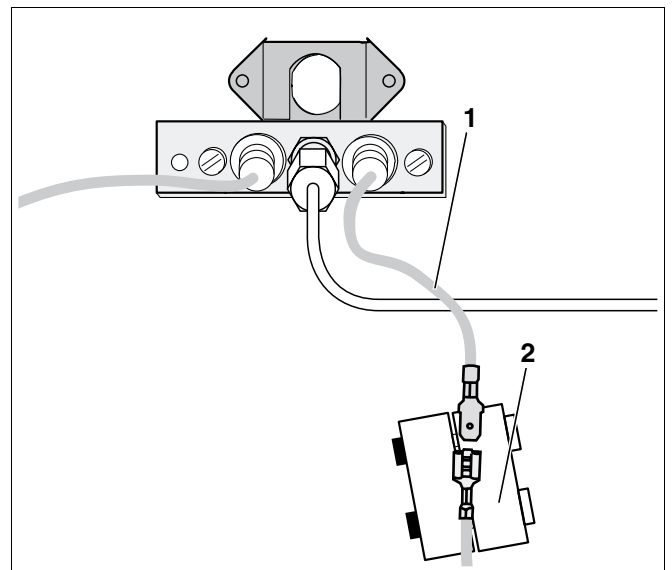

Fig. 11 Remove the contact protector
- Remove the contact protector (Fig. 11, **Item 2**) from the monitoring lead (Fig. 11, **Item 1**) and release the plug-in connector.